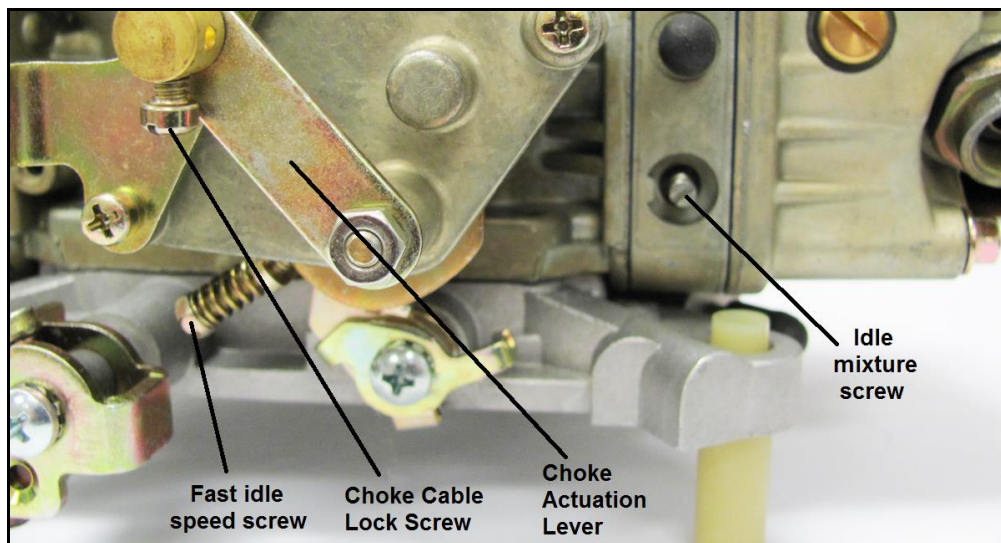

Figure 8
6. If the fast idle RPM is too low or too high for your preferences, **TURN THE ENGINE OFF.** Advance the throttle to wide-open, exposing the fast idle set screw below the choke housing (See **Figure 8**).
1. Connect the choke control cable (Holley® P/N 45-228) to the choke actuation lever, and lock in place with the choke cable lock screw (Figure 8).
4. If the fast idle RPM is too low or too high for your preferences, TURN THE ENGINE OFF. Advance the throttle to wide-open, exposing the fast idle set screw below the choke housing (See **Figure 8**).